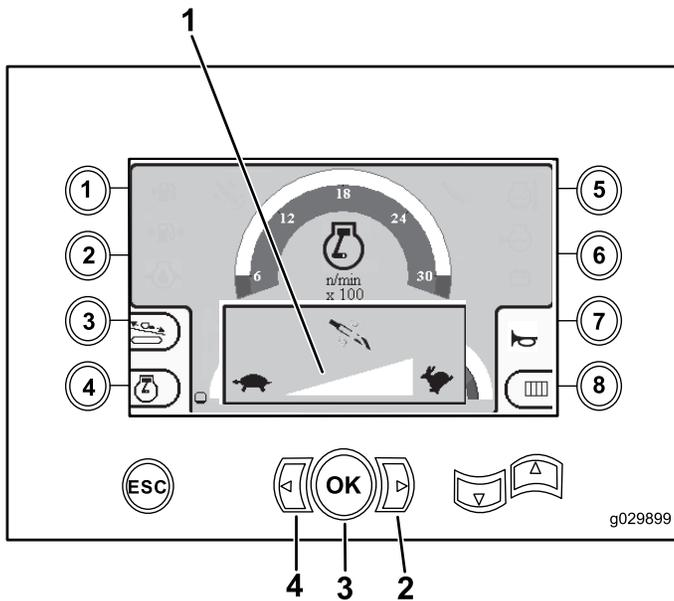

Figure 4
2. Push the Left arrow to decrease the maximum speed, or push the Right arrow to increase the maximum speed (Figure 4).
3. Release the OK button to set the drill-rotation speed (Figure 4).